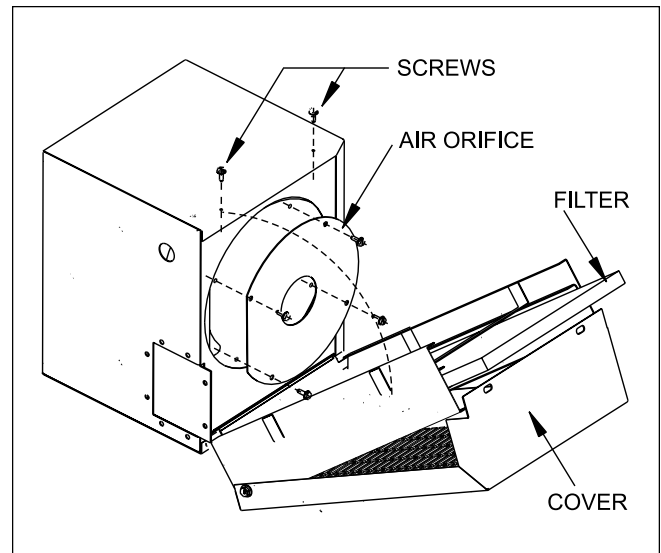

Figure 20. Blower-Housing.
2. Remove the screws holding the blower housing cover to expose the blower (see Figure 20).
3. Remove filter and clean any contamination or debris (see Figure 20).